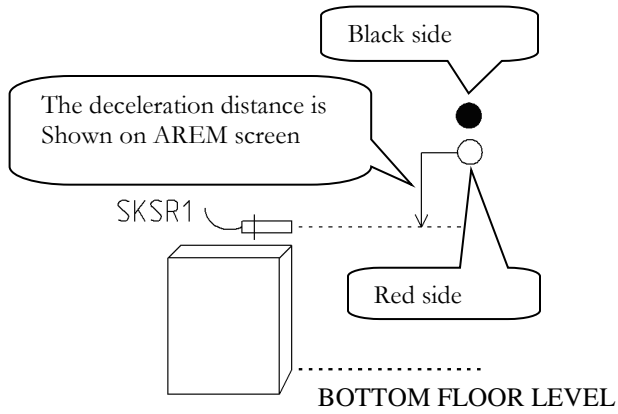

Figure-12: Installation of magnets for SKSR1 bottom
- Make the installation of round magnets for SKSR1 bottom limit switch (bottom correction sensor). The cables of SKSR1 magnetic switch must be connected 100 and 817 terminals in IBC-S board. Round magnets of bottom limit switch must be put as shown Figure-12. The needed distance for magnets is shown on AREM screen When parameter “**Shaft Learning**” is selected.